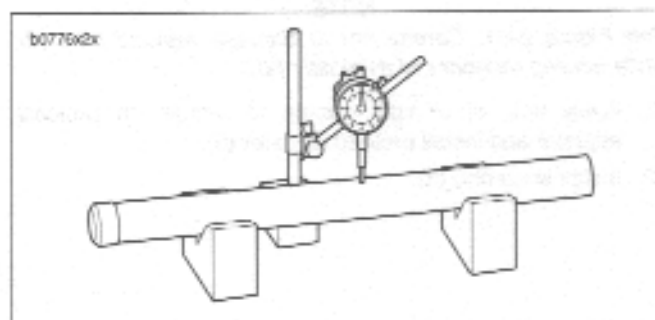
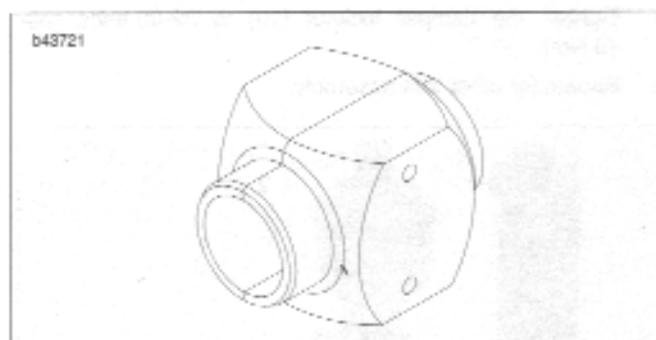
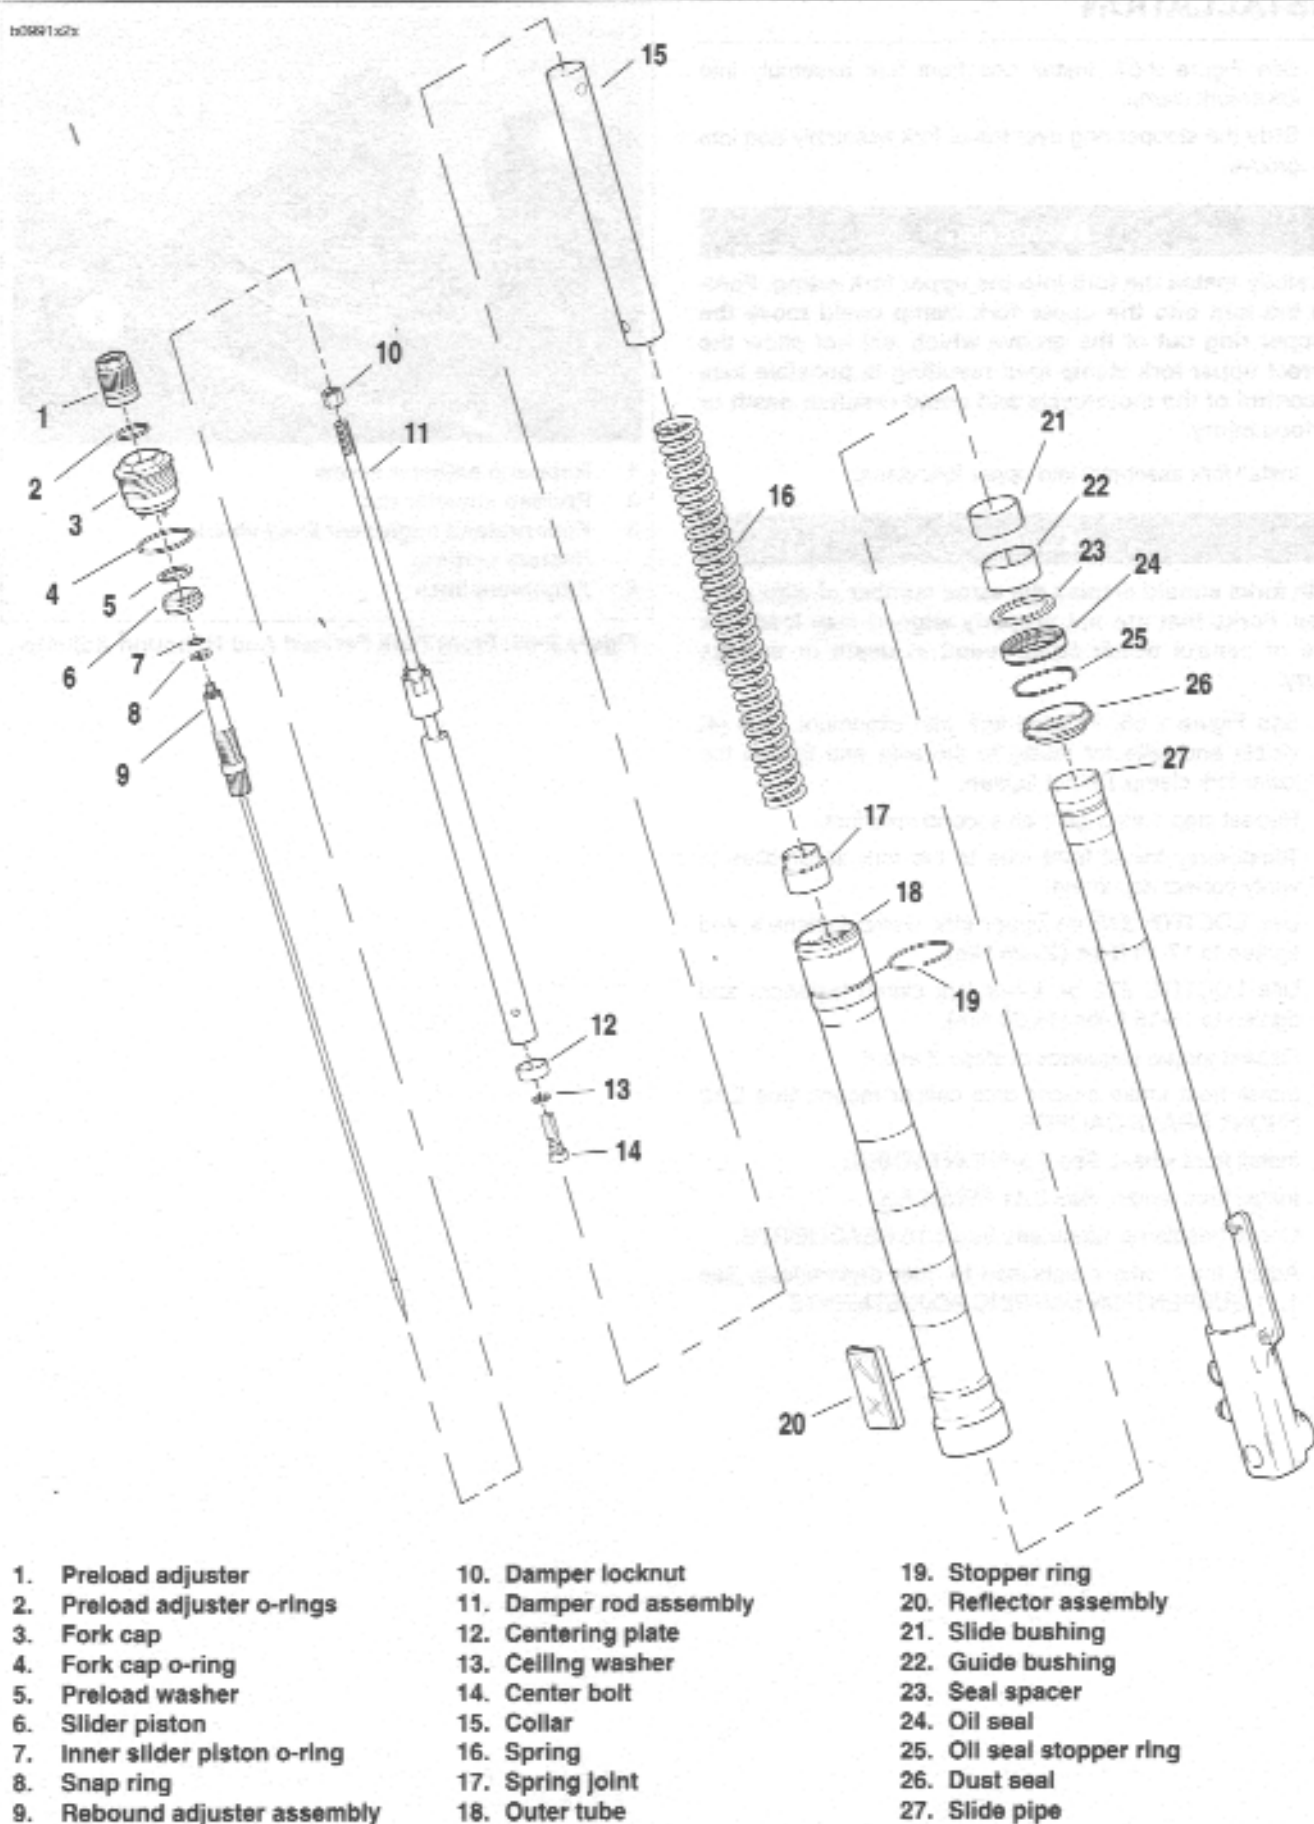

Figure 2-62. Pipe Runout
Figure 2-64. Fork Seal Driver
Figure 2-67. Front Fork Assembly
See Figure 2-67. Disassembly of damper rod is not required unless damper locknut (10) has been moved. If damper rod needs servicing refer to the Firebolt Parts Catalog (Part No. 99574-03Y) for kit information.
2. See Figure 2-67. Holding the damper locknut (10), unscrew the rebound adjuster assembly (9) and remove from damper rod assembly (11).
3. Remove damper locknut (10) from damper rod assembly (11).
2. See Figure 2-67. Check the slide pipe (27) and outer tube (18) for score marks, scratches and excessive or abnormal wear. Replace if worn or damaged.
3. Check the slide bushing (21) and the guide bushing (22) for excessive wear or scratches. Replace if damaged or worn.
4. Replace the stopper ring (19) if distorted.
5. Measure spring (16) free length. Replace springs shorter than service wear limit of 9.13 in. (232 mm).
6. See Figure 2-62. Measure slide pipe runout. Replace pipe if runout exceeds the service wear limit of 0.008 in. (0.2 mm).
1. See Figure 2-67. Fully thread the damper rod locknut (10) on to damper rod (11) clockwise till it lightly bottoms.
1. See Figure 2-67. Wrap the end of the slide pipe (27) and the slide bushing channel with tape to avoid damaging the oil seal lip when installing.
2. Install a **new** dust seal (26) and stopper ring (19) onto the slide pipe (27).
3. Coat the sealing lips of the **new** oil seal (24) with fork oil or sealing grease and install onto the slide pipe with its marked side facing the dust seal (26).
5. Install the seal spacer (23), the guide bushing (22) and the slide bushing (21) onto the slide pipe (27).
6. Coat the slide bushing (21) and the guide bushing (22) with fork oil.
7. See Figure 2-67. Drive the guide bushing (22) with the seal spacer (23) and oil seal (24) into position in the outer tube using a FORK SEAL DRIVER (Part No. B-43721). See Figure 2-64.
8. Install the oil seal stopper ring (25) and a **new** dust seal (26).
10. See Figure 2-67. Install the centering plate (12) onto the damper assembly (11) and insert the damper assembly into the slide pipe (27).
11. Replace the sealing washer (13) and center bolt (14) (metric). Tighten the center bolt to 22-30 ft-lbs (30-40 Nm).
18. See Figure 2-67. Install spring (16) and collar (15).
3. Install one front fork assembly into lower fork clamp (8).
4. See Figure 2-67. Slide the stopper ring (19) over top of fork assembly and into groove.